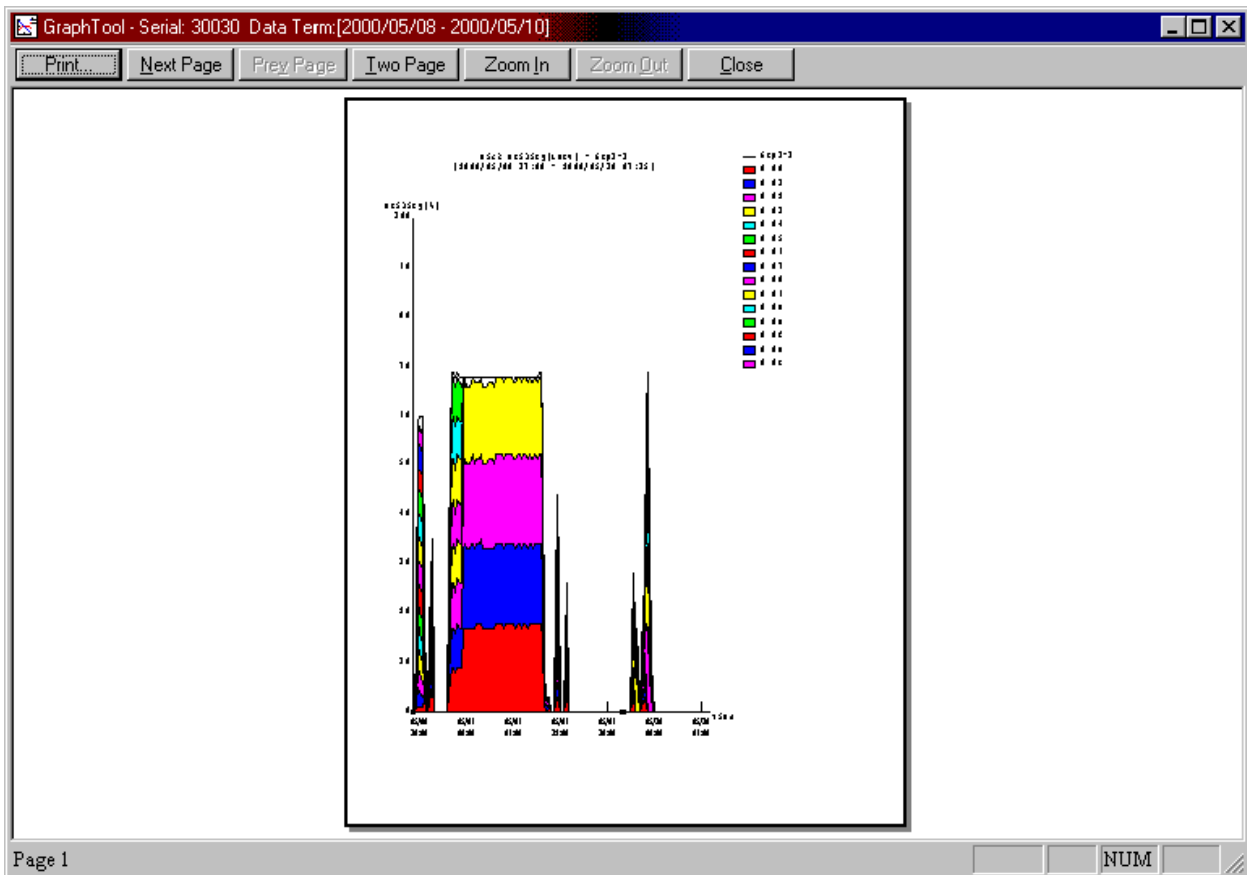

Figure 5.33 Print Preview Window
2. If you want to display a preview of the print image, select **Print Preview...** from the **File** menu on the GraphTool Main panel. The Print Preview window (see Figure 5.33) displays one or two pages at a time and allows you to zoom in and zoom out. Select **Print...** to print the graph, or select **Close** to close the Print Preview window without printing.